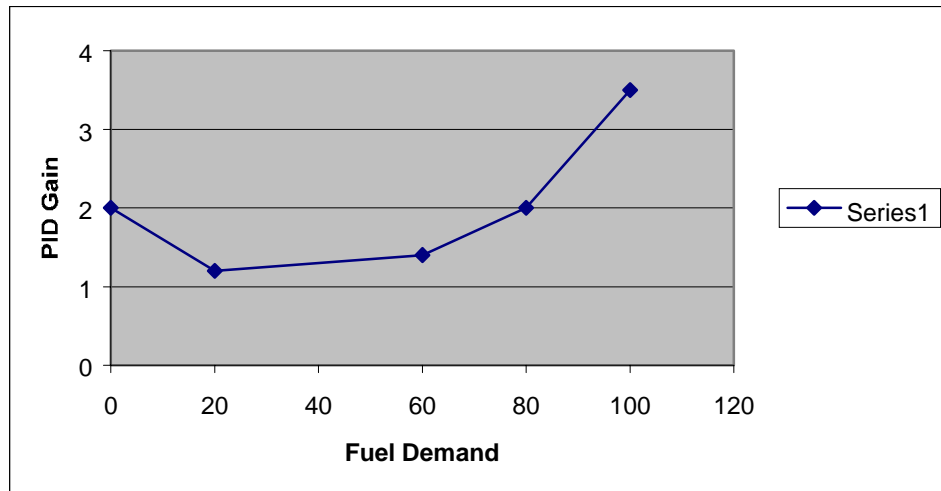

Figure 4-5. Linearized Gain Plot
Note in both charts that valve position falls on a curve. The menu does not permit the construction of a curve. However, with four slope segments (5 break points) available, a rough approximation of the curve can be created (see Figure 4-5).
- d. Create a plot of the system by plotting PID GAIN as a function of load. A typical result is shown in Figure 4-5.
- Use the plot of the engine to determine the linearity of the fuel system. This curve should be linearized between inflection points as shown in Figure 4-5.